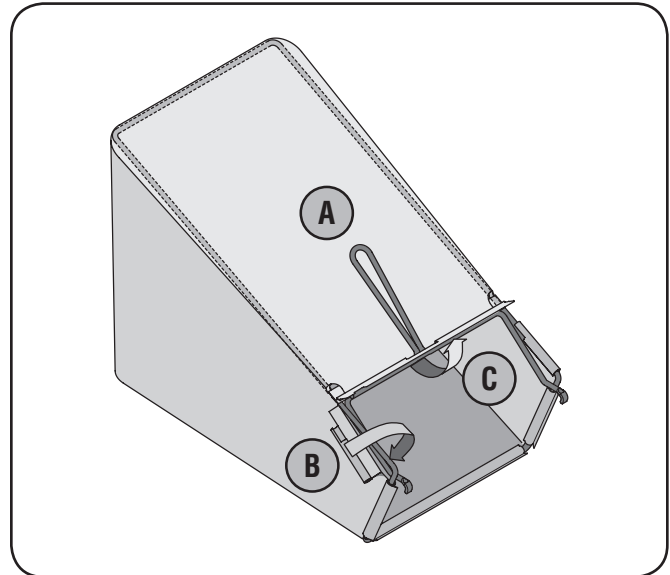

Figure 3-5
- b. Slip plastic channel of grass bag over hooks on the frame. See Fig. 3-5. All the plastic channels except center top of bag attach from outside of bag.